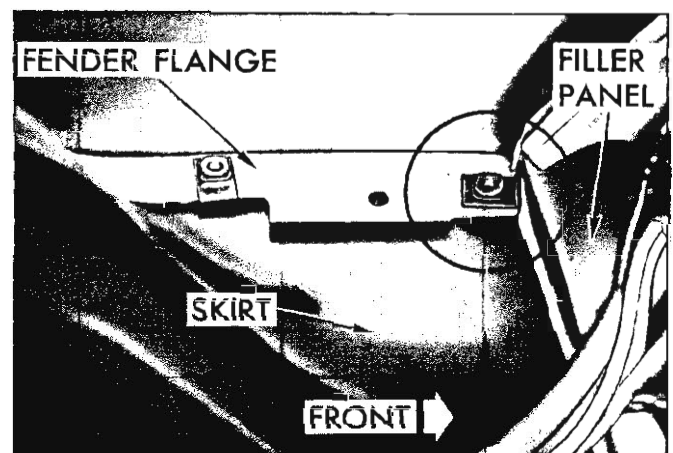

Fig. 19c—Position of Left Front Fender Skirt Typical
1. Position skirt on vehicle so that the front flange lies between the fender and bumper filler panel flanges in the area shown in Figure 19c.